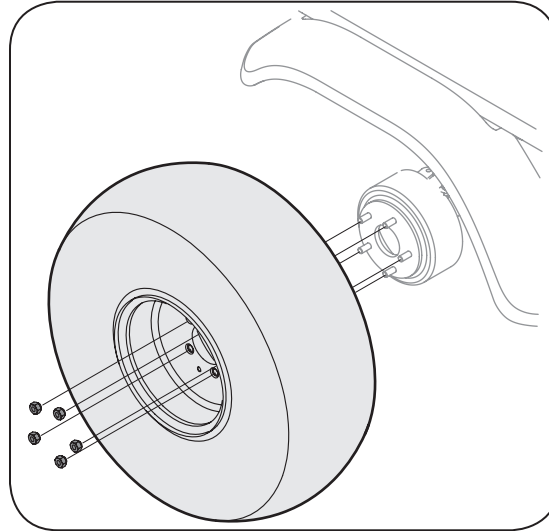

Figure 17
3. Loosen but do not remove the five lug nuts from the axle hub. See Figure 17.